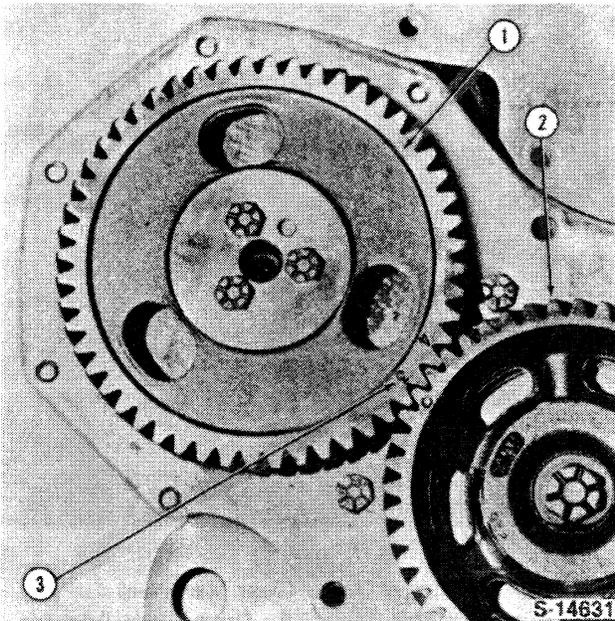

Figure 24
4. Assemble the fuel injection pump to the engine front plate. Check No. 1 piston is at T.D.C. and install the injection pump drive gear with the timing mark aligned with that of the camshaft drive gear, Figure 24.